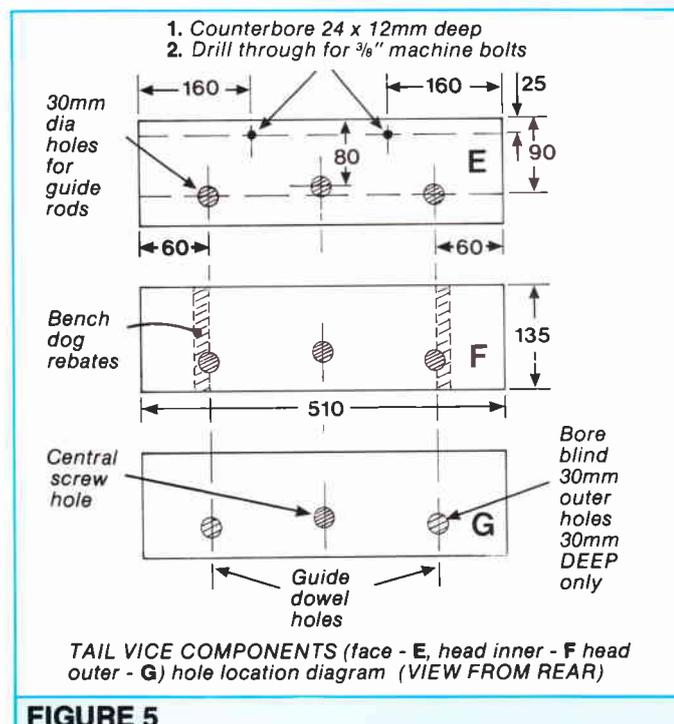

FIGURE 5
12 Stack the tail vice face and head components (E,F,G) in their relative positions and clamp firmly together, vice face (E) on top. Mark the positions of the 30mm centre and guide rod holes, (Figure 5) and bore through the top component to mark the one below. Remove the top component (E) and reclamp the two vice head components back together. Bore through at the marked positions as before, into the bottom components, unclamp and remove the vice head inner. For the remaining piece (vice head outer) bore right through with the centre hole only, stopping about half way through for the two outer guide rod holes.